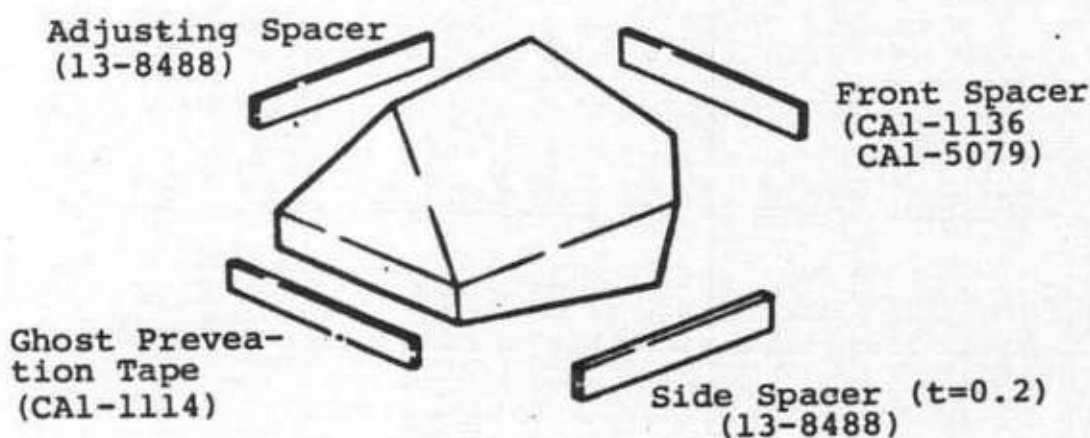

Fig. 2-32
1. Install the pentaprism with the parts shown below. (Fig. 2-32)